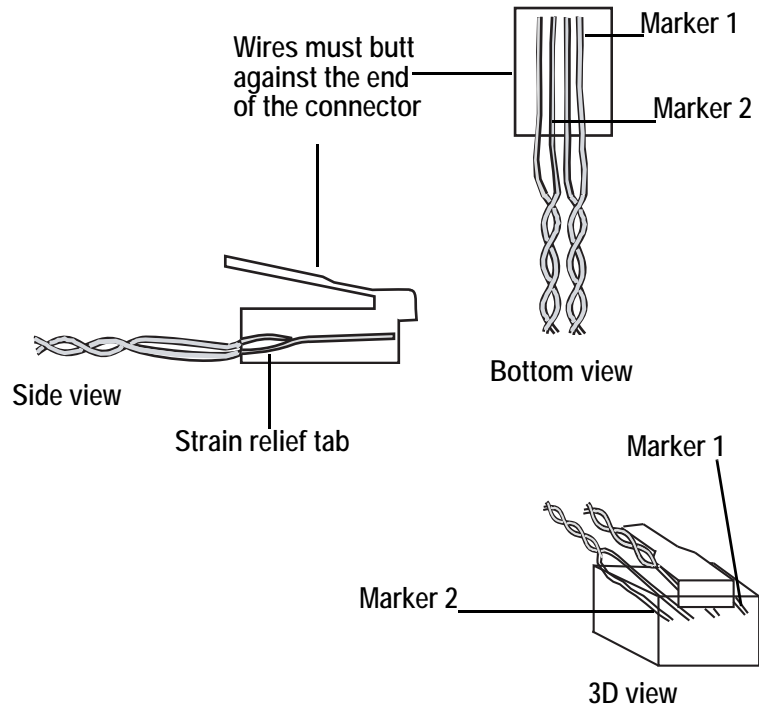

Figure 9-7 Inserting Wire into an RJH Connector
- look down at the wires from the top of the connector to check that the wires butt against the end of the connector (see Figure 9-7, top view)